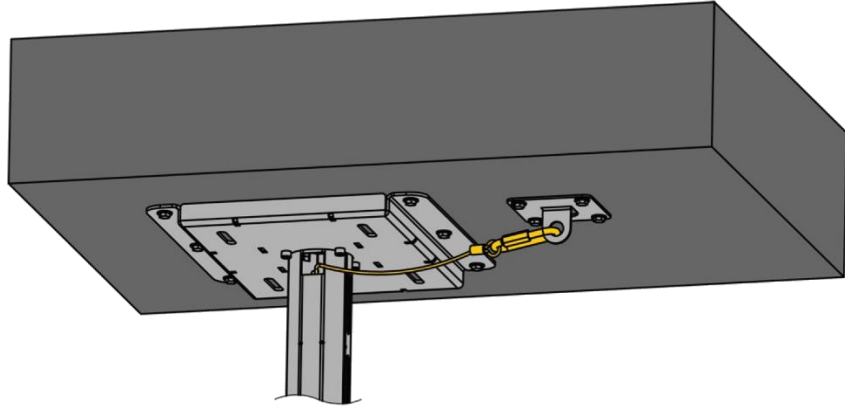

Figure 94: Step 13A
13A] For concrete ceiling mount: Use a quick link to secure one end of the safety cable ⑫ to the safety anchor ⑦. Conduit the other end of the safety cable ⑫ into the upper tube ② and lower tube ③, as shown in **Figure 94**.